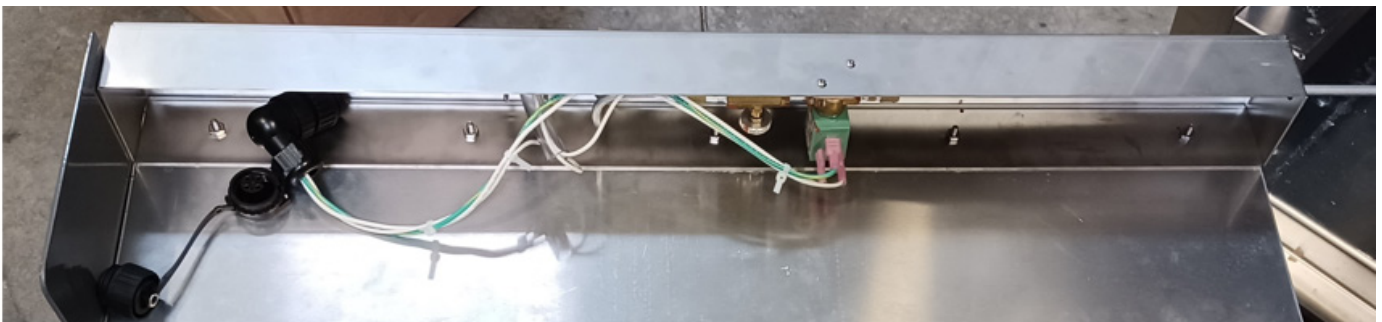

Figure 3
4. Mount new sheet metal shelf containing auto-water system in the same way the replaced shelf was mounted. (figure 3)